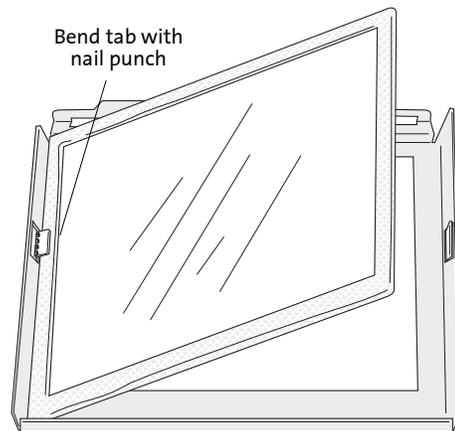

Figure 27. Removal and replacement of the glass panel.
1. Using a nail punch inserted into the perf holes, carefully pry the two glass retainer tabs back. See fig. 27.